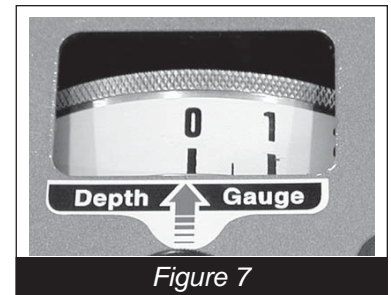

Figure 7
- Set the Depth Gauge (*Figure 7*) at ZERO .